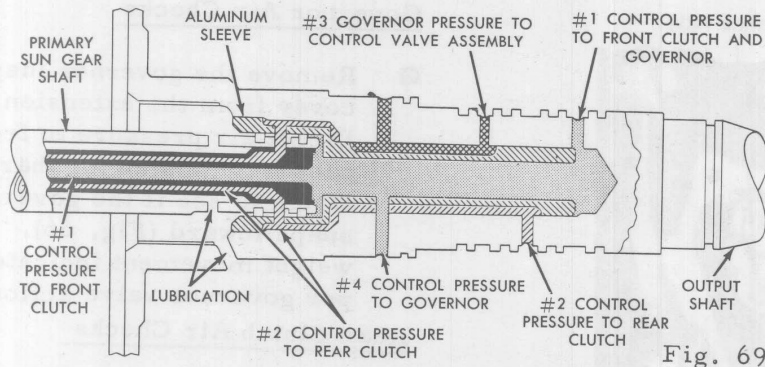

Fig. 69
- ⊗ If air pressure when applied to either of the clutch passages fails to cause the clutch to operate or operates both clutches at once, remove and with air pressure, check the fluid passages at the output shaft aluminum sleeve for correct indexing with the holes in the output shaft. Check the primary sun gear shaft assembly passages with air pressure to detect obstructions (Fig. 69).